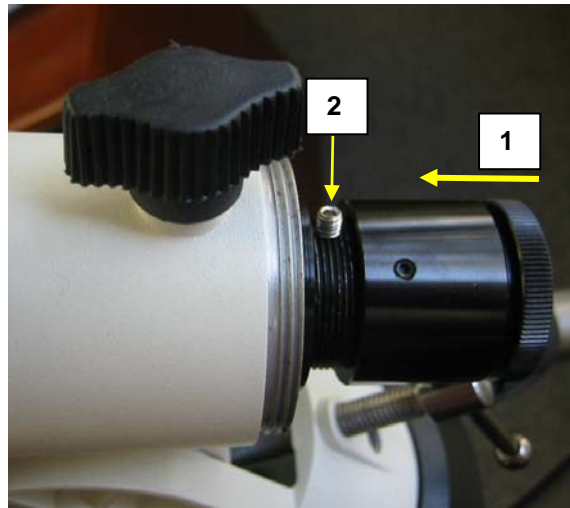

Figure 3. Install polar scope
3. Insert polar scope all the way into the scope housing, as shown in Figure 3. The polar scope will be tight fitted into the scope house. Secure the scope by tightening the set screw.